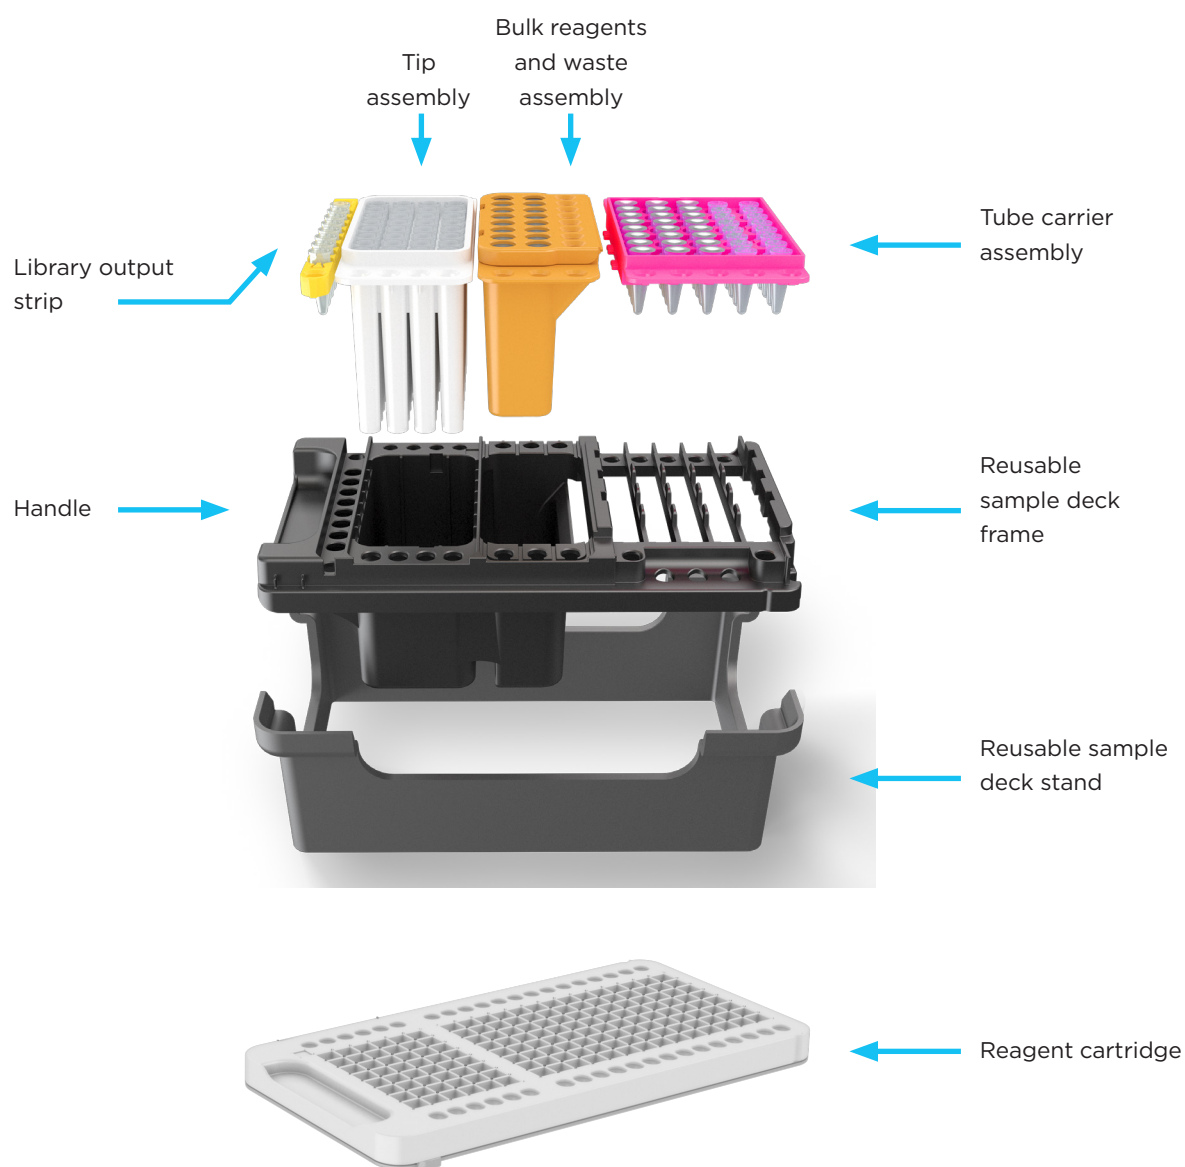

Figure 3. Sample deck components and reagent cartridge.
2. Place the box containing Revelo DNA-Seq Enz for MagicPrep NGS sample deck components (Figure 3; kept at room temperature) on a laboratory bench and open it.
5. Completed libraries are in the Library Output Strip (Figure 3). Seal library output strip tubes with the included strip caps before removing them from the sample deck. The left-most tube (with the handle facing towards you) contains the library representative of your first sample. See **Appendix 6.1.** for library index sequence positioning.